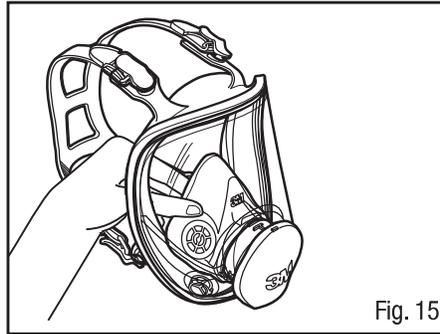
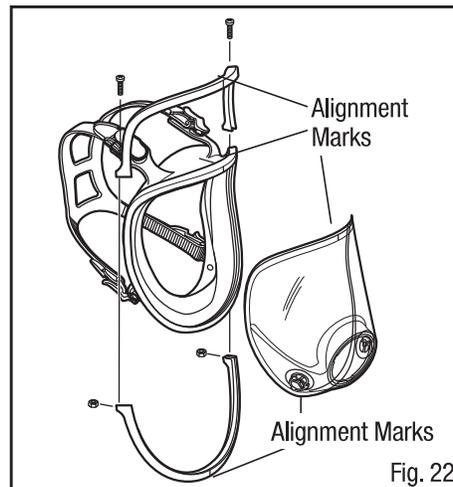

Fig. 15
Fig. 22
1. Remove nose cup assembly by pulling away from center adapter inside facepiece (Fig. 15).
1. Remove the nose cup assembly by pulling away from center adapter inside facepiece (Fig. 15).
1. Remove nose cup assembly from inside facepiece (Fig. 15).
3. Remove the (2) Phillips screws from the lens/face seal frame. Pull the frame top and frame bottom away from face seal.
5. Place new lens and face seal together aligning marks at top and bottom. Position top and bottom frame, again aligning marks top and bottom. Install and securely tighten screws. Make certain alignment marks are properly aligned top and bottom with all components (Fig. 22).
2. Position bottom frame, aligning center vertical mark, and press in place (Fig. 22).